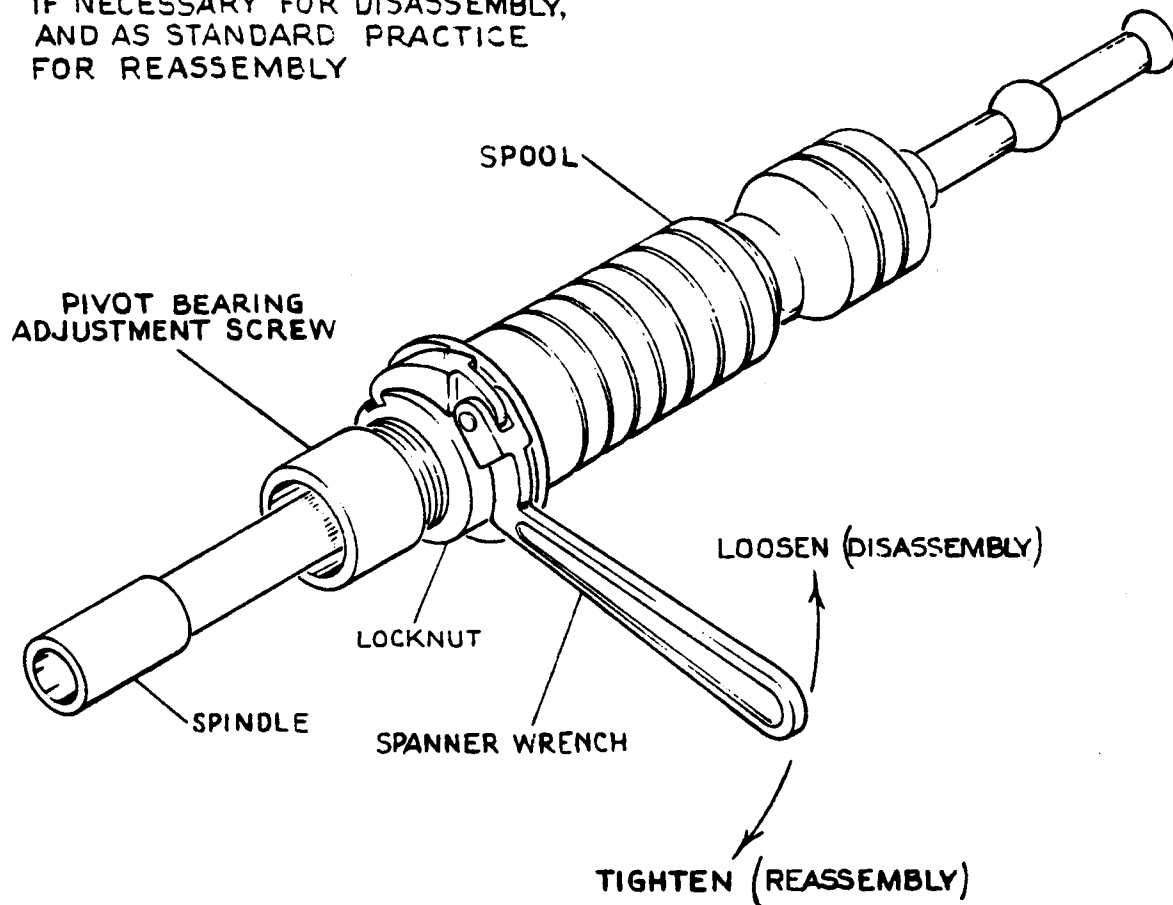

Figure 5. Locknut Removal and Installation
7. Rotate Lock Nut (68) to the left 1/2 turn. Unscrew (left) pivot bearing Adjustment Screw (65) and slide Spindle (58) out of Spool (35) (see figure 5, Locknut Removal and Installation).
5. Hold the Spool (35) in your hand and with the other hand tighten the Adjustment Screw (65) until a very slight bind is felt when the spindle is oscillated in all directions. Hold Spool (35) in hand and tighten Lock Nut (38) by striking spanner wrench with hammer (see figure 5, Locknut Removal and Installation). Remember, no vise.